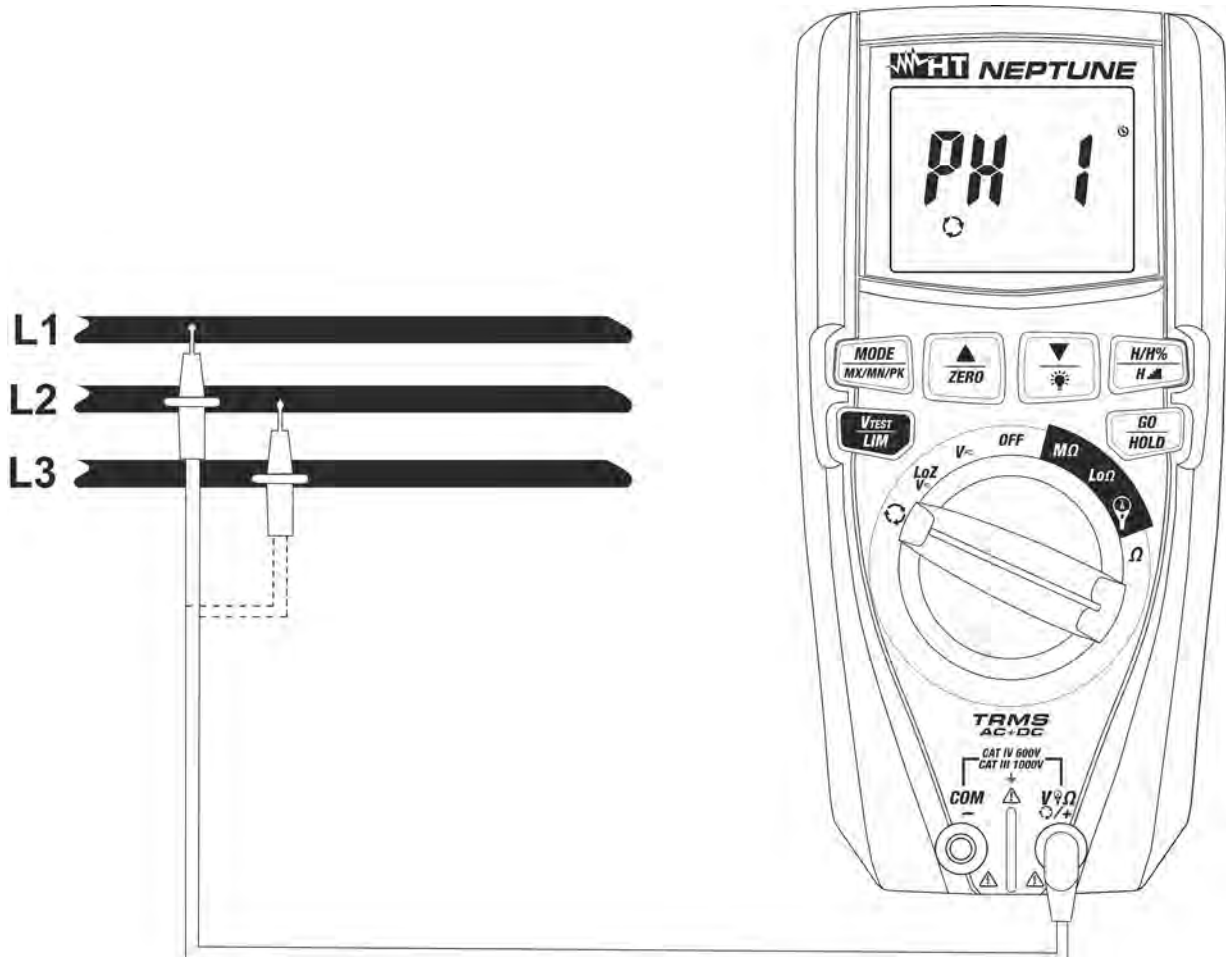
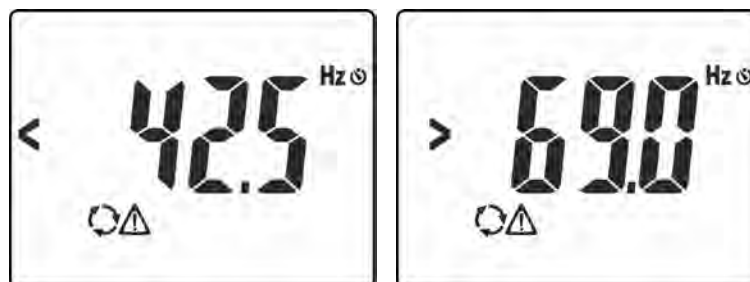
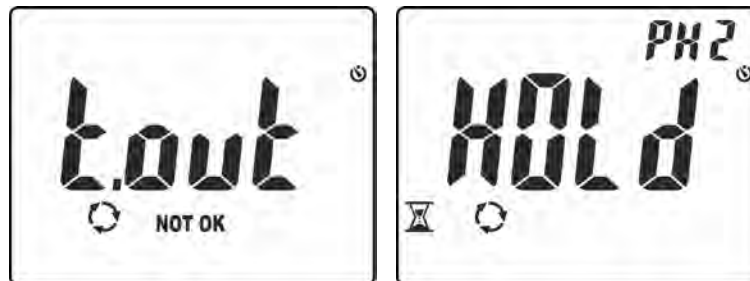

Fig. 10: Use of the instrument for phase sequence and phase concordance test
Fig. 11: Signal of voltage with wrong frequency
Fig. 13: Detecting phase L1 and waiting for phase L2
3. Position the red lead onto phase **L1** of the three-phase system to be tested (see Fig. 10). The following messages may appear on the display (see Fig. 11) to identify the presence of a voltage signal with frequency out of range **42.5Hz ÷ 69Hz**. In these conditions, the instrument does not perform the test.
6. Position the red lead onto phase **L2** of the three-phase system to be tested (see Fig. 10). In case passage between phase L1 and phase L2 takes more than **10s**, the instrument shows message “**t.out**” on the display (see Fig. 13 – left side). In conditions of correct voltage and frequency, the instrument shows message “**HOLD**”, symbols  and “PH2” and the buzzer sounds continuously, waiting for a stable voltage value on phase L2 to be detected (see Fig. 13 – right side).